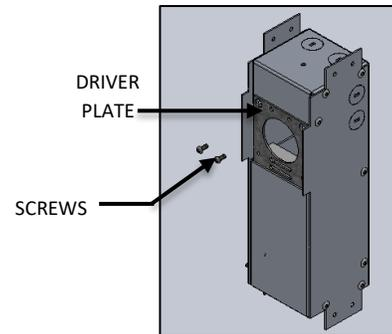

FIG. 7 - DRIVER PLATE DISASSEMBLE
3. Remove the Screws securing DRIVER PLATE, and slide DRIVER PLATE out of J-BOX as shown in FIG. 7.